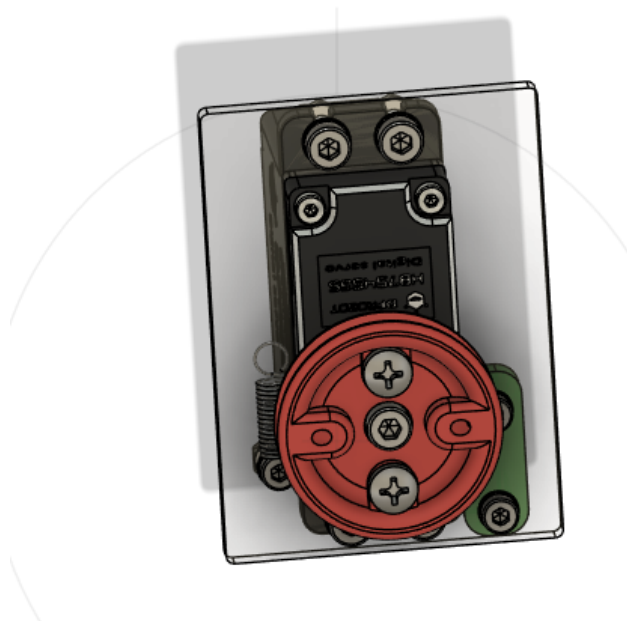

Figure 6: A completed servo assembly, showing the spool mounted with its wire holes horizontal.
5. Using the M3 rounded Phillips screws, affix the spool to the servo horn, then screw the servo horn onto the servo. Best practice is to mount the spool onto the horn with the wire holes horizontal, matching the arrangement in Figure 6; to ensure this, zero the servos before attaching the horn.